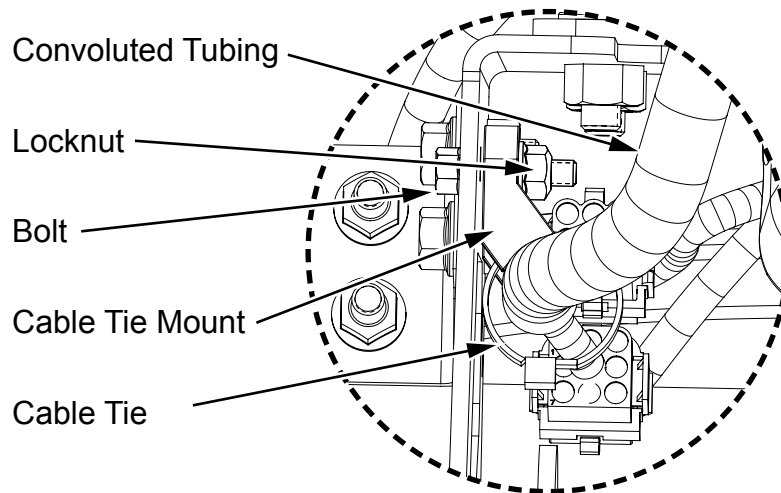

Figure 3
- 5. HEAD LAMP HARNESS DETAIL:** Install (1) 8397612 convoluted tubing, (1) FE286225BW01 locknut, (1) FE410125AW12 bolt, (1) GZ220044-001 cable tie mount, and (1) 948210 cable tie (see *Figure 3*).